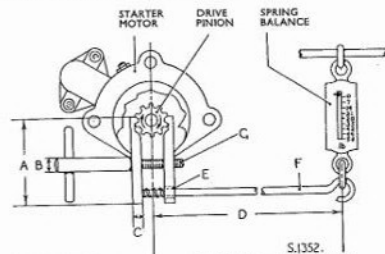

Fig. N.18. Measuring the lock torque of the starter motor
1. With the starter motor still secured in the vice, and connected in series with the starter switch, ammeter and battery, connect a voltmeter between the motor terminals and yoke (see Fig. N.17). Clamp an arm to the driving pinion and to the free end of the arm attach a spring scale (see Fig. N.18).